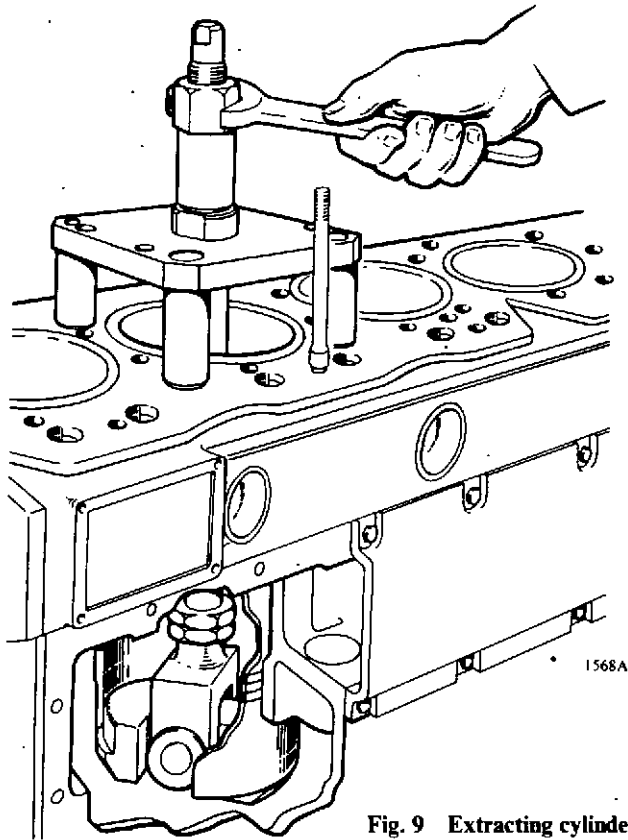

Fig. 9 Extracting cylinder liner
30. Turn engine vertical and extract cylinder liners using tool GA.629 (fig. 9). Protect liners against damage whilst out of crankcase.